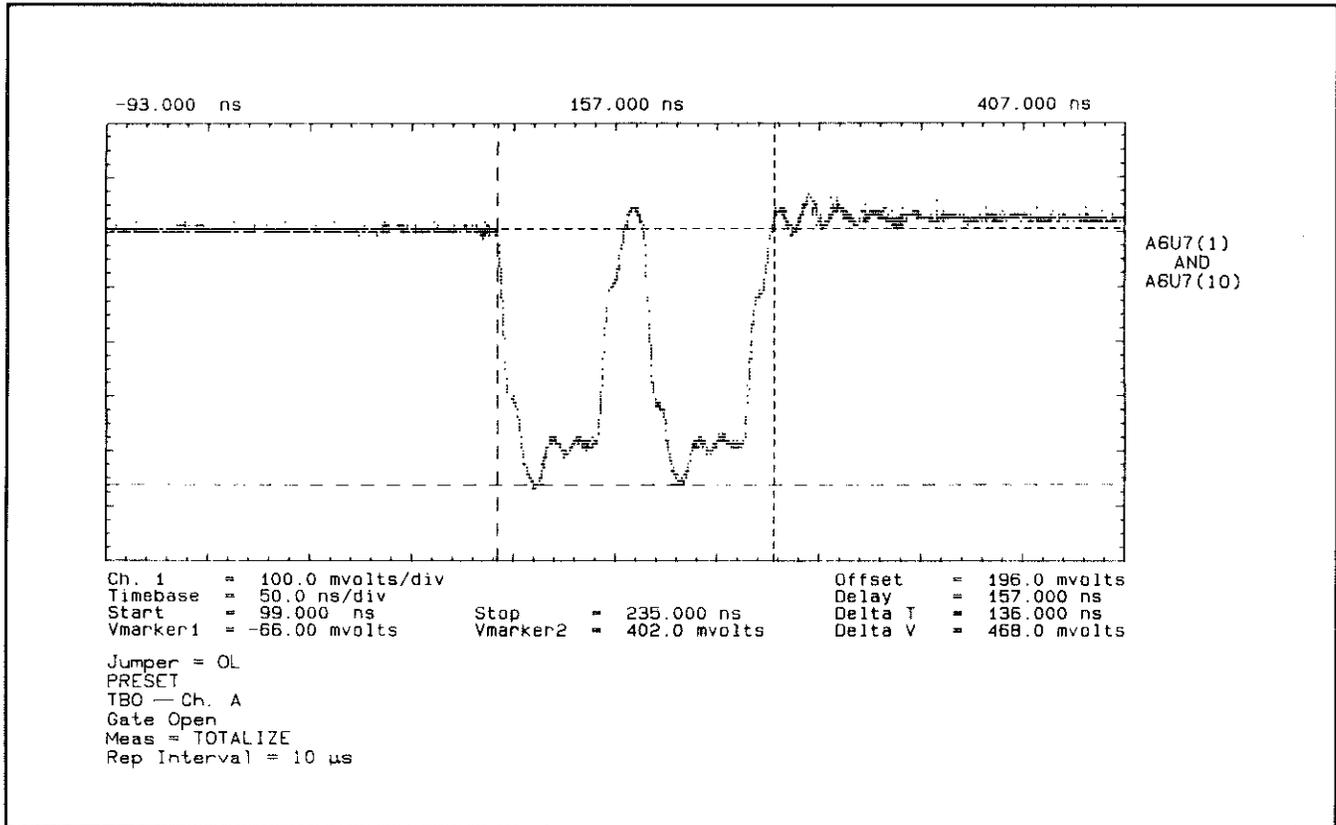

Figure 7F-20. Waveforms at A6U7(1,10) in Totalize Mode
1. Jumper Position = Open Loop, Timebase Out to Channel A Press PRESET. Observe that signals at A6U7(1,10) are as shown in *Figure 7F-19*. Change measurement to Totalize. Observe that signals at A6U7(1,10) are as shown in *Figure 7F-20*.
2. Jumper Position = Open Loop, Timebase Out to Channel A Press PRESET. Observe signals at A6U53(5,13), see *Figure 7F-21*. Change measurement to Totalize. Observe signals at A6U53(5,13), see *Figure 7F-22*. (Rep Int=10uSec)